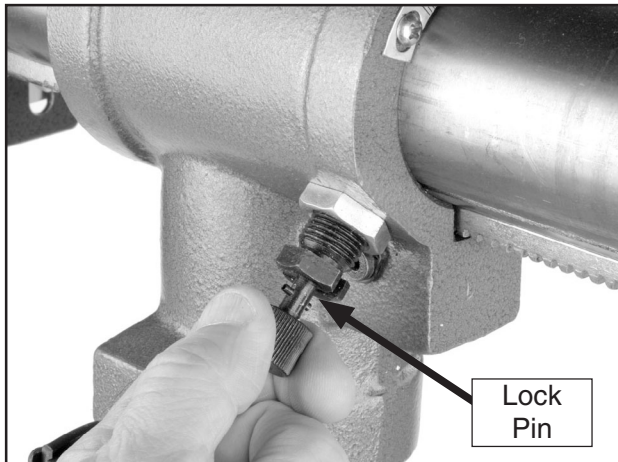

Figure 27. Lock pin location.
2. Pull out the guide pin located on the left side of the headstock and rotate the pin 90° as shown in **Figure 27**.